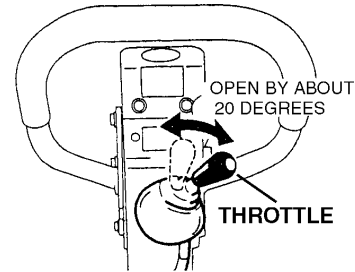

Figure 9. Throttle Lever (Start)
2. Move the throttle lever to the **START** position by opening it to about 20 degrees (Figure 9).